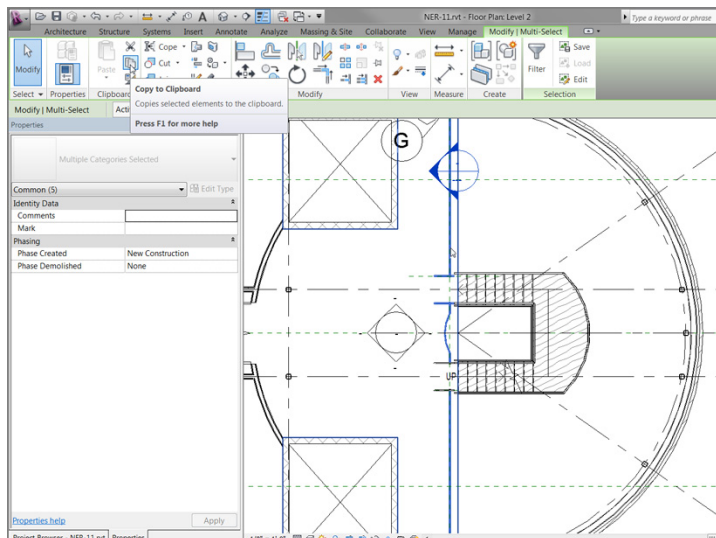

FIGURE 10.30: Copy the selected items to the clipboard.
1. Select the middle railing, the two ADA railing extensions, and the northern railing, as shown in Figure 10.30.
2. On the Modify | Multi Select tab, click the Copy To Clipboard button (see Figure 10.30).